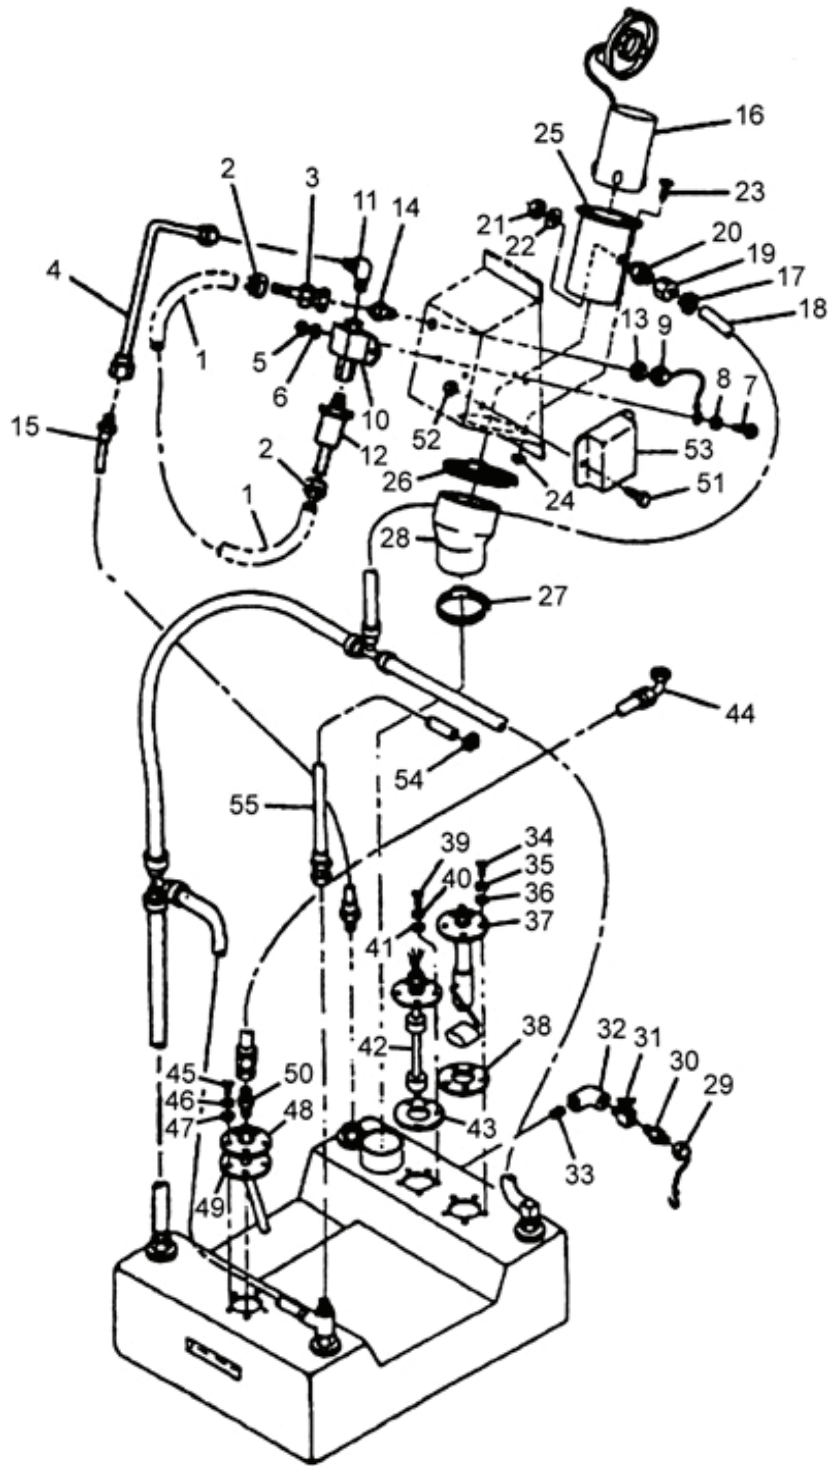

Figure 2-30. Fuel Tank Filler Neck and Low Pressure Fuel System.
- c. Identify fuel line or fitting that is damaged or leaking and must be removed (Figure 2-30).
- b. Inspect auxiliary fuel pump (10, Figure 2-30) for leaks, cracks, missing hardware, loose connections, and other damage.
- d. Disconnect auxiliary fuel pump outlet line (15, Figure 2-30) at fuel tank fitting and place disconnected end in measuring container.
- h. Connect auxiliary fuel pump outlet line (15) at fuel tank fitting.
- c. Tag and disconnect auxiliary fuel pump (10, Figure 2-30) electrical connector.
- d. Loosen clamps (2). Disconnect filter (12) and remove adapter fitting (3) from filler neck panel
- a. Install fitting (14, Figure 2-30) and nut (13) in fuel filler panel.
- b. Install fitting (11) on auxiliary fuel pump (10).
- c. Install auxiliary fuel pump (10) and cap and chain assembly (9) in generator set with bolts (7), washers (8), new lock washers (6), and nuts (5).
- d. Connect auxiliary fuel outlet line (4) to auxiliary fuel pump (10).
- e. Remove caps from fuel inlet hose (1). Install filter (12) on auxiliary fuel pump (10). Install adapter fitting (3) on fuel inlet hose (1) and connect adapter fitting (3) to filler neck panel fitting (14). Connect other end of fuel inlet hose to filter (12).
- f. Tighten clamps (2).
- c. Remove cap (29, Figure 2-30), open fuel drain valve (31), and drain fuel into suitable container.
- e. Remove filler neck cap and tube assembly (16).
- f. Loosen clamp (17) and disconnect hose (18) from adapter (19).
- g. Remove adapter (19) from fitting (20).
- h. Remove nut (21), washer (22), and fitting (20) from side of filler neck (25).
- i. Remove bolts (23) and nuts (24) securing filler neck (25) to generator set housing.
- j. Remove clamps (26 and 27), hose (28), and filler neck (25) from fuel tank opening. Cover fuel tank opening.
- c. Inspect hose (28, Figure 2-30) for cracking, wear, and other damage.
- d. Inspect filler neck (25) for corrosion, cracking, and other damage.
- e. Inspect filler neck cap and tube assembly (16) for damage.
- a. Position hose (28, Figure 2-30), clamps (26) and (27), and filler neck (25) on fuel tank.
- b. Install bolts (23) and nuts (24) securing filler neck (25) to generator set housing.
- d. Install fitting (20), washer (22), and nut (21) inside of filler neck (25).
- e. Install adapter (19) on fitting (20) and connect hose (18) to adapter (19) with clamp (17).
- f. Install filler neck cap and tube assembly (16).
- g. Close fuel drain valve (31), install cap (29), and service fuel tank. Refer to Table 2-2 for proper fuel.
- c. Remove cap and chain assembly (29, Figure 2-30) from adapter (30).
- d. Open drain valve (31) and drain fuel into suitable container.